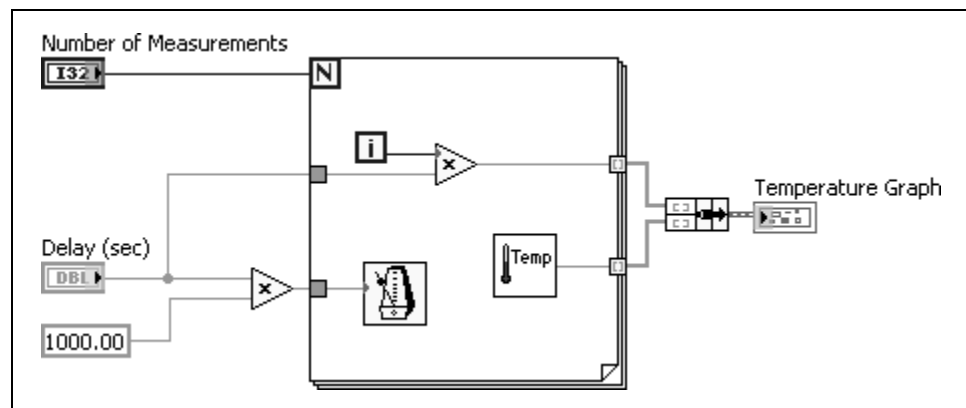

Figure 2-31. Using Temperature VI Block Diagram
- Move the cursor to the middle left resizing node until the cursor changes to a double arrow, as shown in Figure 2-31.
Figure 2-31 shows an example of the block diagram as it appears after your modifications. You move the **Number of Measurements** terminal and wire the terminal to the count terminal of the For Loop.
- Click and drag at the terminal to the new location as shown in Figure 2-31.
- Move the cursor to the count (N) terminal of the For Loop.
10. Change the value of the **Delay (sec)** control to something greater than zero (0).